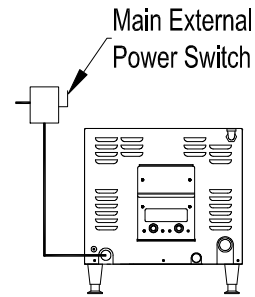

Figure 3-1
2. Turn ON the Main External Power Switch. See Figure 3-1.